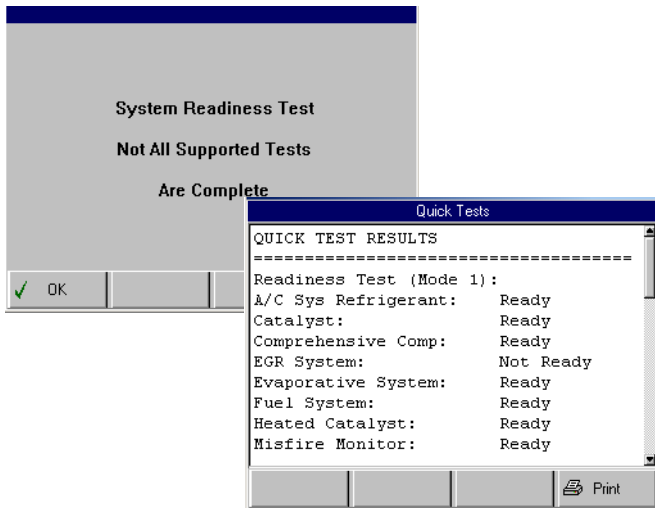

Figure 3.16: System Readiness Test Message Screen and Quick Test Results Screen
- If either a System Readiness Test message screen or a Quick Test results screen appears, continue with Step 3: View the Quick Test Results on page 19. (See Figure 3.16 on page 19.)
After you connect the cable and press the ENTER key on the scan tool, use the following steps if either an instructional message screen or the Diagnostic Menu screen appears (shown below). In addition, for OBD II vehicles, use the following steps after you have viewed the Quick Test results screen (Figure 3.16 on page 19) and pressed the ENTER key.